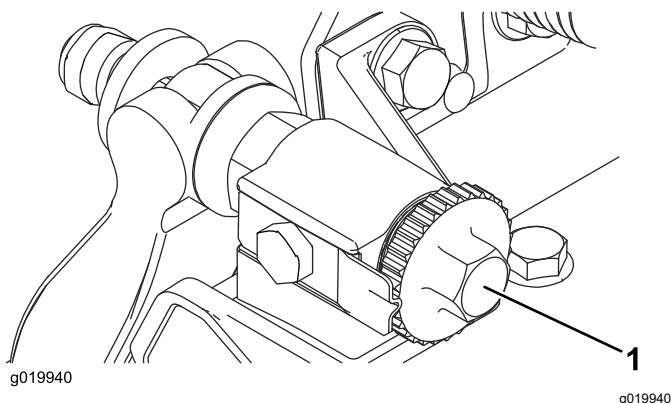

Figure 10
- Turn the bedbar-adjusting screws counterclockwise to ensure that the bedbar does not contact the reel (Figure 10).